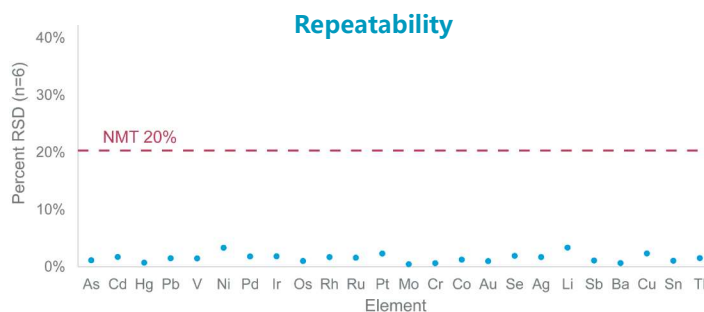

Figure 6. Repeatability for 1.0J Spikes (n=6).
- 6个1J加标的样品值必须满足相对标准偏差不超过20%。(Figure 6)